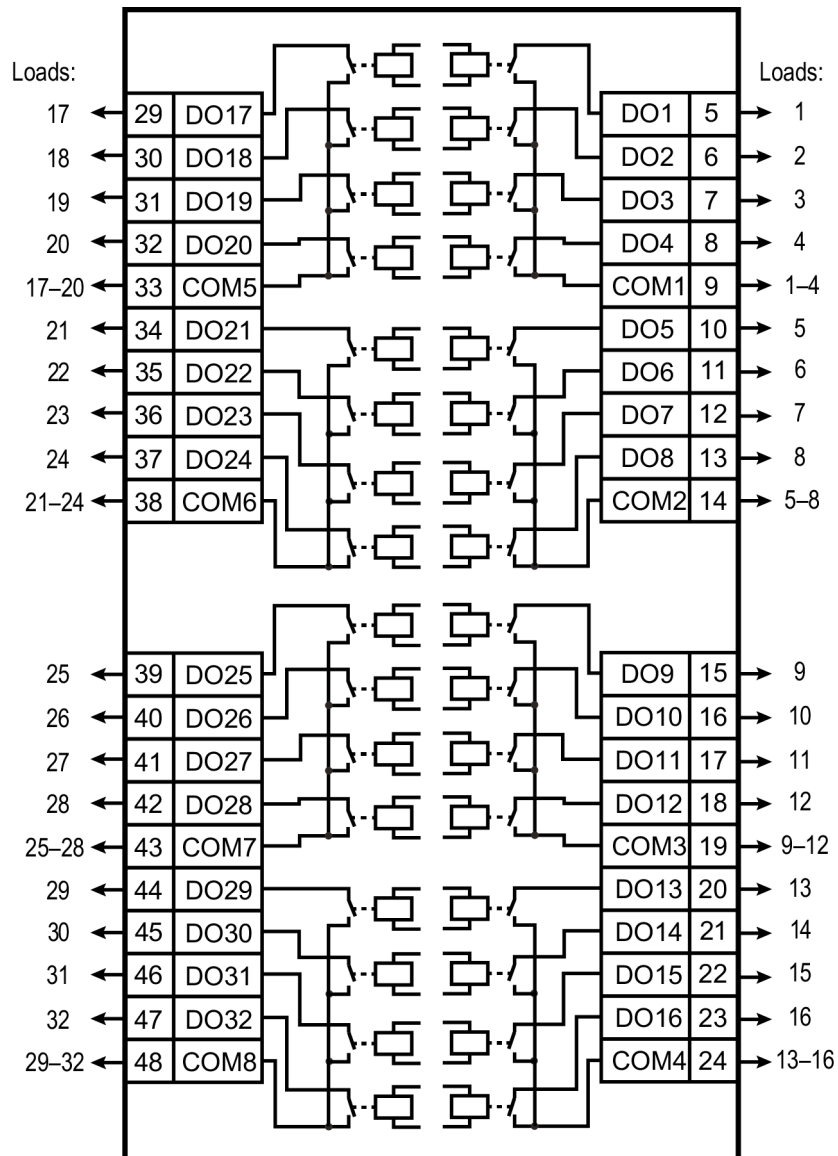

Fig. 4.2 MU110-32R outputs
- Wiring options for both types of outputs are shown on Fig. 4.2–4.3.